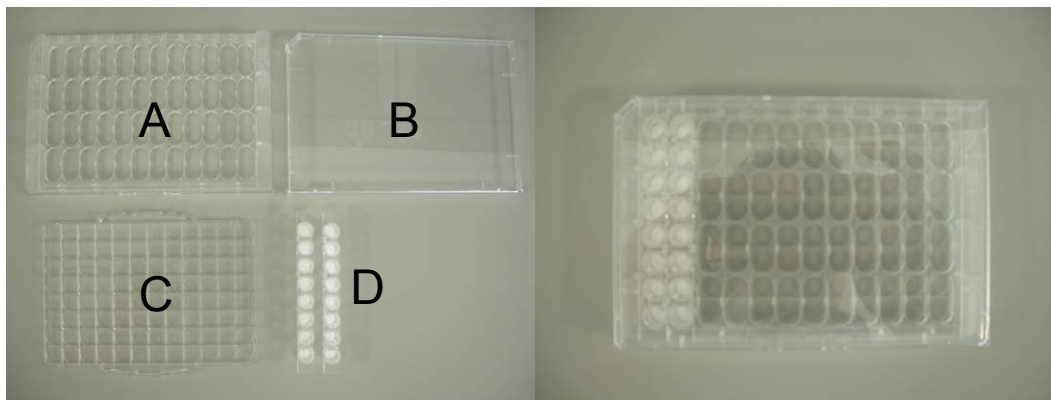

Figure 14: Left: Breakdown of the 8 well strip plate (TB.300). Right: Final assembly with 2 strips. Enough wells for 4 patient samples (e.g. 16 wells).
Clip the strips to be used into an empty plate frame fitted with a bottom plate and lid. Figure 14 (left), shows a breakdown of the 8 well strip plate (TB.300) containing 2 strips: Plate frame (A), Lid (B), bottom plate (C), and the 2x 8 well strips (D). Figure 14 (right), shows the complete frame containing 2 strips (16 wells) sufficient for 4 patient samples. The frames, bottom plate and lids can be retained and reused.